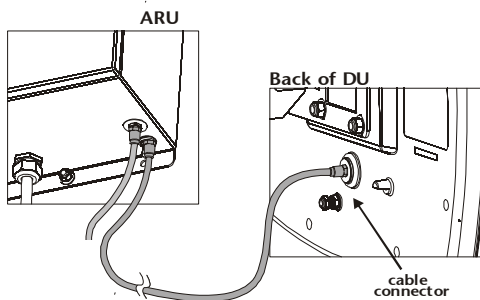

Figure 4.9 ARU to DU Coaxial Cable Connection
1. Temporarily connect the ARU to DU coaxial cable - see Figure 4.9. The DU support pole is typically over 80-ft from the HPCU support pole. Connect one end of the provided 160-ft RG-11 cable to the remaining RF port on the ARU, and the other end to the back of the DU. During alignment testing the DU will be handheld.